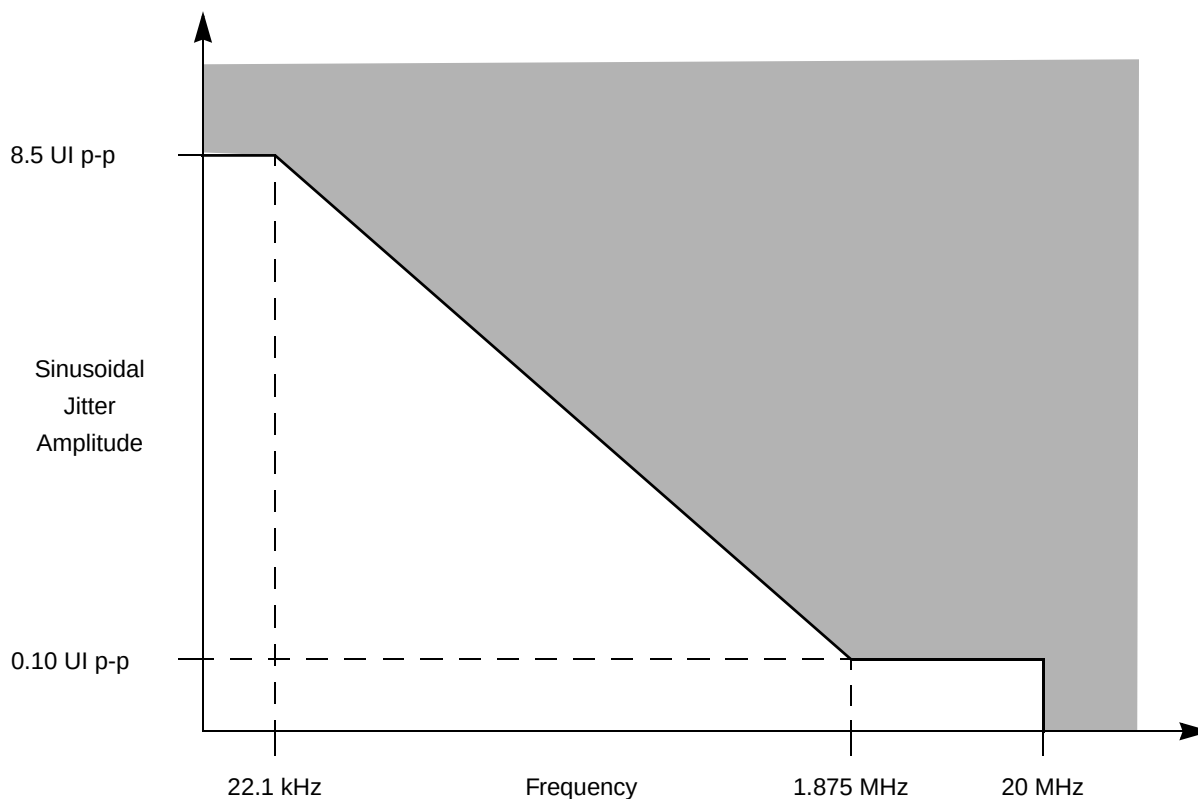

Figure 25. Single frequency sinusoidal jitter limits
- See Figure 25 for single frequency sinusoidal jitter limits.